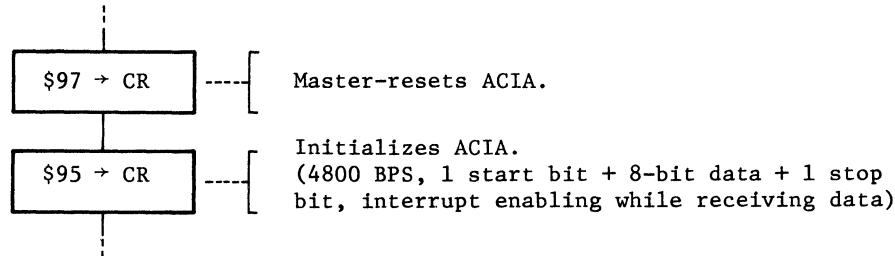
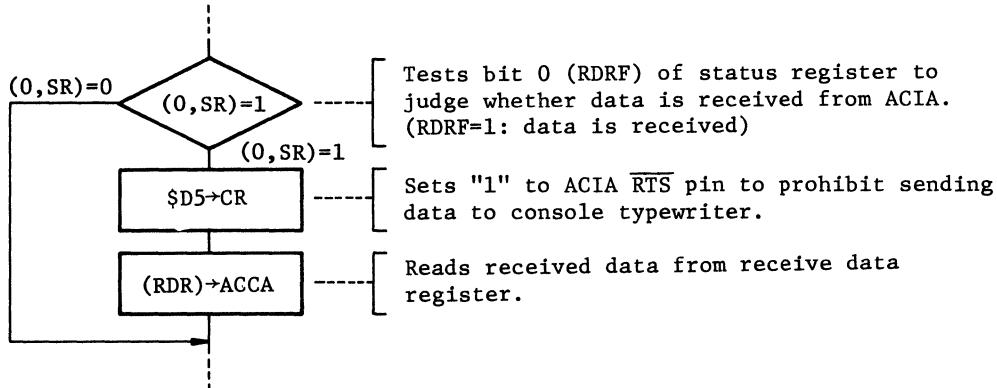

Fig. 12 Control of ACIA (Initialization)
Fig. 13 Control of ACIA (receiving serial data)
(5) Basic Operation
- (a) Control of ACIA is shown in Fig. 12 and Fig. 13. Fig. 12 shows initializing ACIA; Fig. 13 shows reading received data using interrupt. Note that this controlling method is applied to the system in Fig. 1 and memory map in Fig. 2.